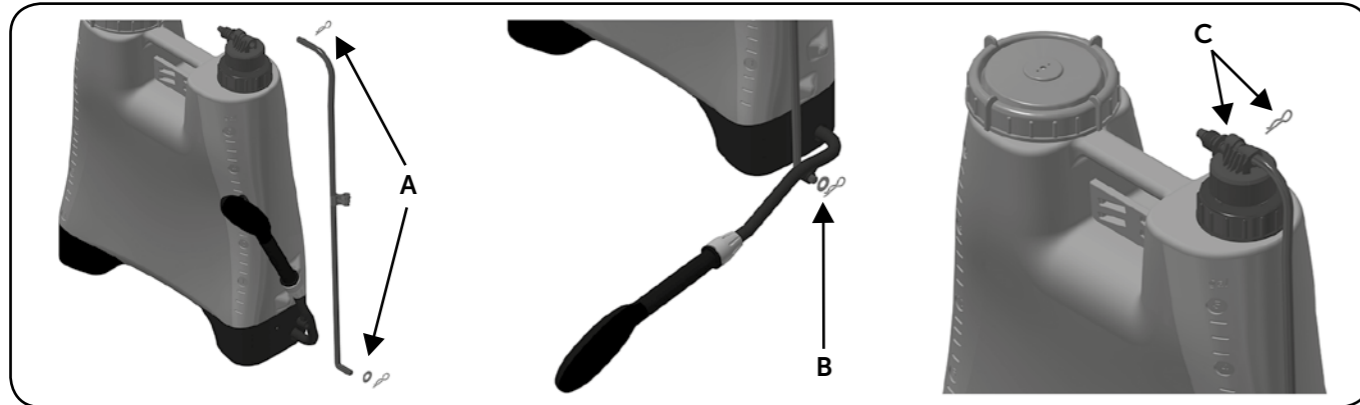

Figure 6. Activation rod assembly sequence.
Assembly of the lever rod (Figure 6):
**Lubrication of the double bushing (Figure 16):** For lubrication of the double bushing (item 16), first remove the clamp and remove the upper part of the activation rod (Figure 6.C), partially unscrew the housing nut (item 14) and remove the pressure accumulator (item
22) housed in the complete cylinder set (item 12) (at this time you should use PPE and appropriate glove to avoid contamination). Then lubricate the bushing with grease or vaseline allowing the lubrication of the set.